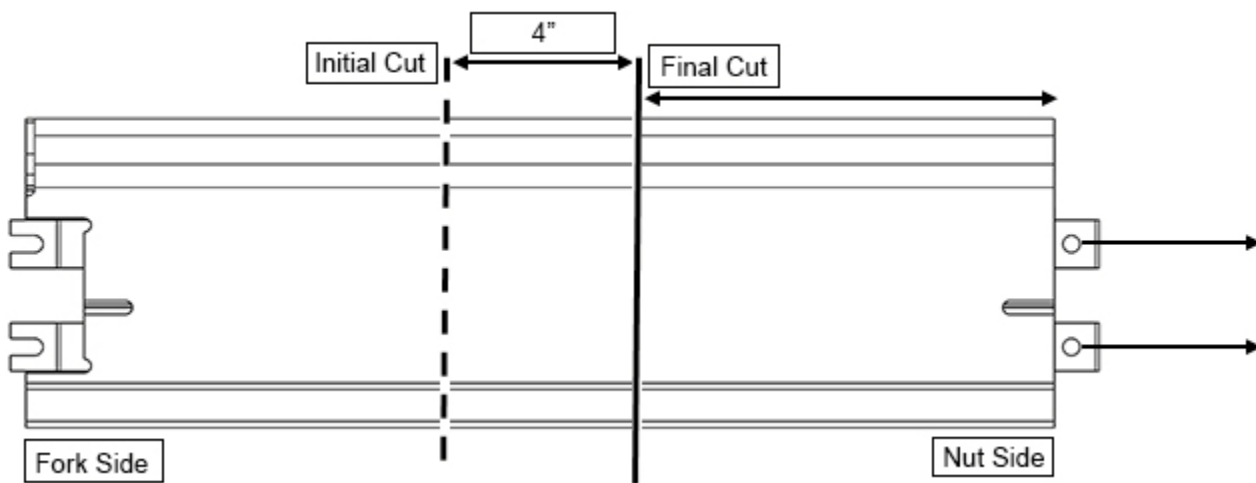

Figure 33: Side View (20-130 A)
1. Cut the line element at least 4" longer than necessary (Figure 33).
2. Pull conductors inside far enough so that the final cut does not recut the conductors (Figure 33).